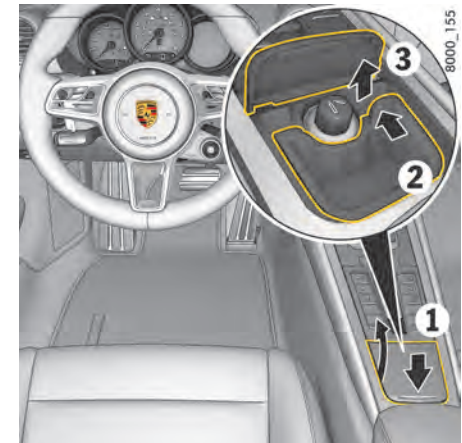

Fig. 167: Opening and emptying the ashtray
- ▶ Press the ashtray lid briefly ((Fig. 167), **1**).
1. To release, press the ashtray insert upward toward the right and front until it audibly disengages ((Fig. 167), **2** and **3**).